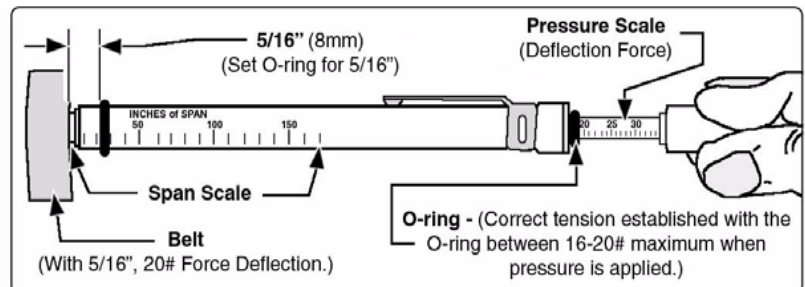

Figure 46: Belt Tension Gauge
2. From the front tip of the gauge, measure back  $5/16$ " (8 mm) and position the large O-ring accordingly. (See Figure 46)
5. Remove the gauge and read the tension established by the smaller O-ring. (See Figure 46) If tension is lower than 16 lbs. (7 kg.), the belt is loose; if the tension is greater than 20 lbs. (9kg.), the belt is too tight. To adjust, see heading "Adjusting Belt Tension."